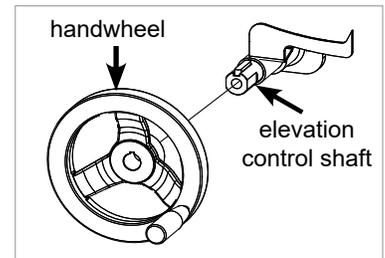
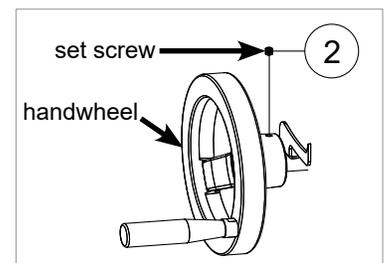
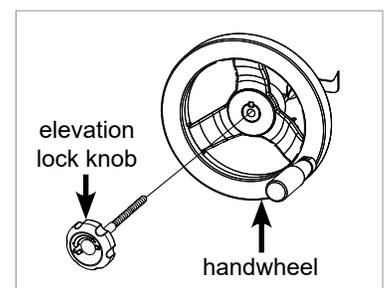

Fig. 9
Fig. 10
Fig. 11
- Open one of the handwheel packages included with your saw and screw the handle into the handwheel (see Fig. 7). Tighten the handle with a 14 mm wrench. The hardware required to install the elevation handwheel is located in the area with the blue background on the Table Saw Hardware Pack. Remove a key from the Table Saw Hardware Pack and insert it into the slot at the end of the elevation control shaft (see Fig. 8). Slide the handwheel onto the end of the elevation control shaft (see Fig. 9) until the face of the handwheel is flush with the end of the shaft. Remove a set screw from the Table Saw Hardware Pack and insert it into the small hole located on the side of the handwheel (see Fig. 10). Use a 3 mm hex key to fully tighten the set screw. Locate the lock knob with the longer shaft. Screw the lock knob into the end of the elevation control shaft (see Fig. 11), but don't tighten it completely. The lock knob is used to prevent the handwheel from turning after the blade has been set to a new elevation.